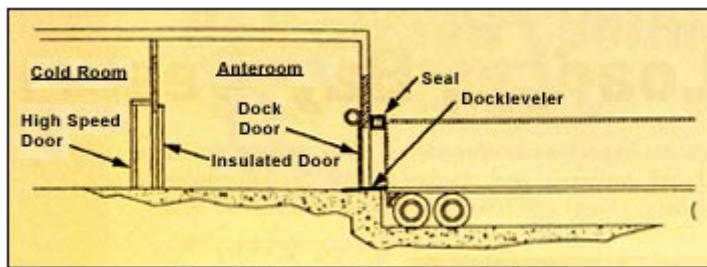

Figure 2 : Modern refrigerated loading bays
**Figure 2** shows a cold store loading bay as suggested by ASHRAE (the American Society of Heating, Refrigerating and Air-Conditioning Engineers), and as they are designed and built today. The design provides efficiency and productivity.